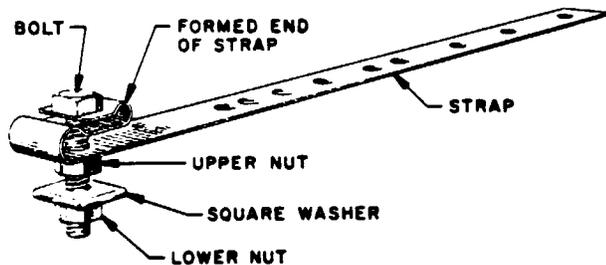

Figure 53—L Ground Clamp
6.20 The L ground clamp (Figure 53) is used to terminate 6-gauge ground wire. It is installed as follows: